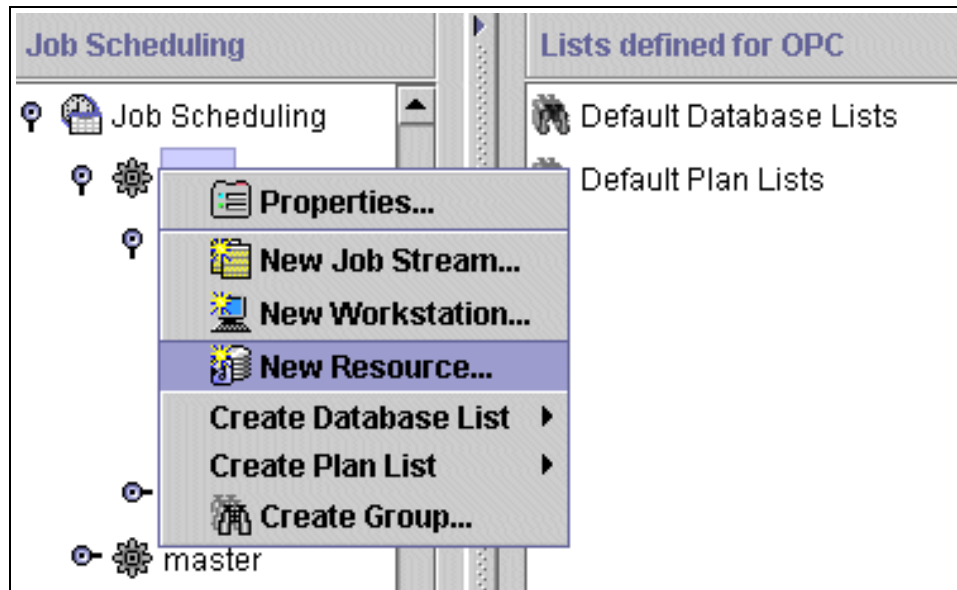

Figure 127. Creating a New Logical Resource
1. Use the right mouse button to click on the **OPC logo** in the left pane and select **New resource** from the pop-up menu as shown in Figure 127 on page 213.